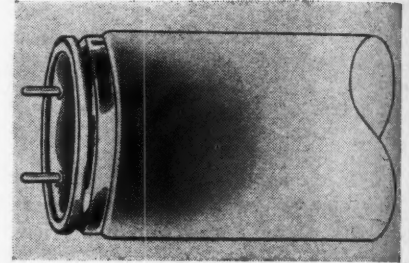

FIG. 4—End darkening can be normal, or a sign of improper operation.
Normal end darkening—Intense darkening at the end of the tube directly adjacent to the base occurs late in its life. This corresponds to the blackening of an incandescent lamp. It indicates that the emissive material on the electrodes is nearly exhausted. **Early end darkening**—End darkening very early in life (Fig. 4) may be due to: (1) a defective starter; (2) improperly designed ballast; or (3) improper voltage. Occasionally, in new lamps, a small amount of mercury will condense on the end of the tube, giving it a dark appearance. This darkening rapidly disappears as the lamp is operated and the mercury becomes vaporized, although it may re-